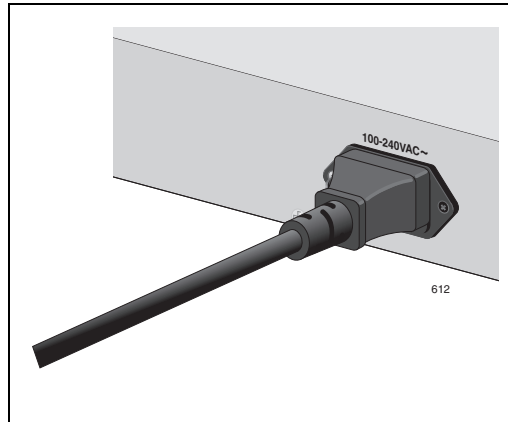

Figure 6. Connecting the AC Power Connector to Switch
5. Apply AC power to the switch by plugging the power cord into the AC power connector on the back panel of the unit, as illustrated in Figure 6.
5. Apply AC power to the switch by plugging the power cord into the AC power connector on the back panel of the unit, as illustrated in Figure 6 on page 33.
7. Apply AC power to the switch by plugging the power cord into the AC power connector on the back panel of the unit, as illustrated in Figure 6 on page 33.